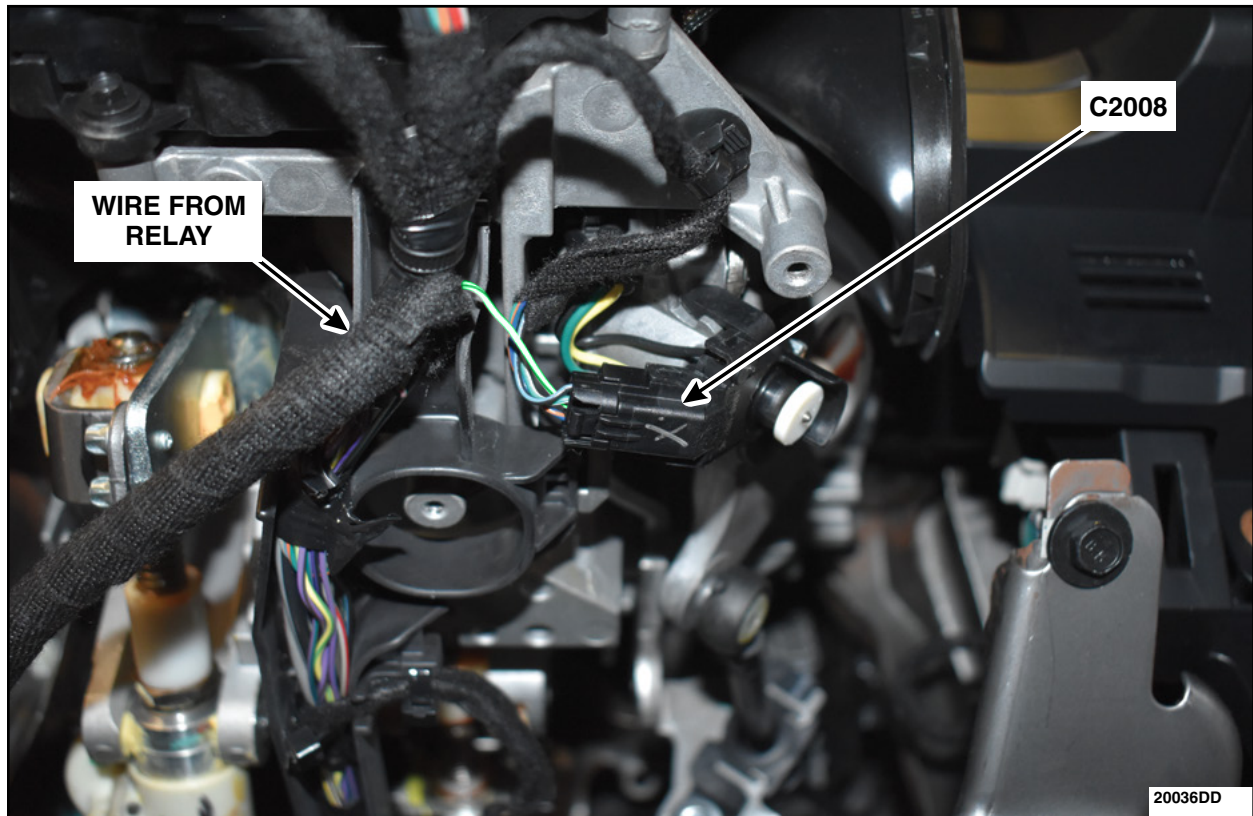

FIGURE 31
49. Reconnect C2008. See Figure 31.